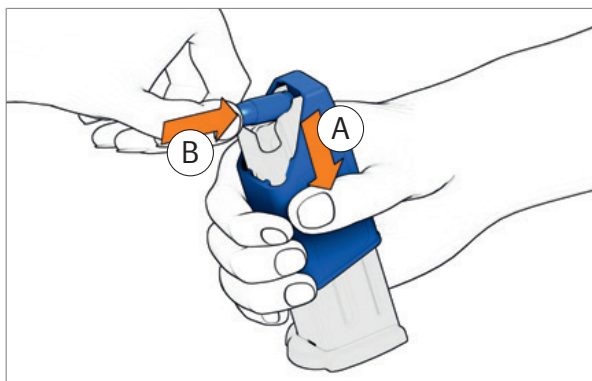

Fig. 42: Pushing cartridge under the magazine lips
2. Press loading aid downwards and hold it (Fig. 42).
3. Push cartridge base forwards under the magazine lips (Fig. 42).